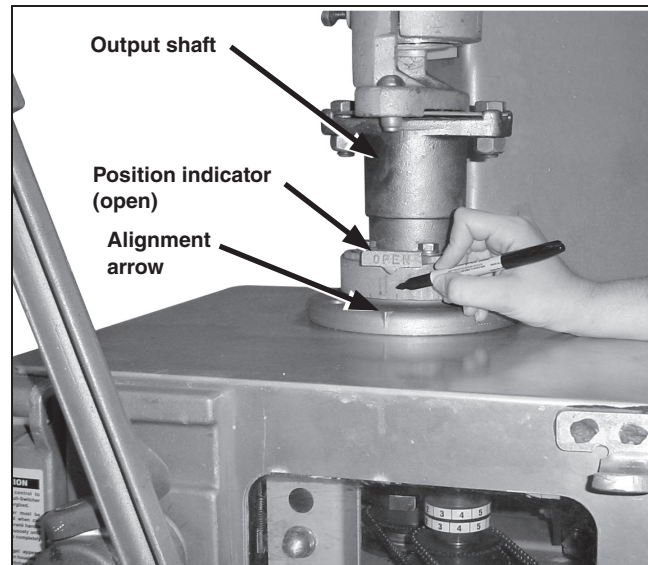

Figure 7. Adjust the position indicator. Mark the direction of operator rotation.
- STEP 4.** With the selector handle in the **Coupled** position, crank the high-voltage switch to the fully **Open** position and then to the fully **Closed** position. In each position, accurately align the high-voltage switch position indicators on the output-shaft collar of the switch operator with the alignment arrow below. See Figure 7 on page 14.
STEP 7. The travel-limit switch (coupled to the motor), which governs the extent of output-shaft rotation in the opening and closing directions, includes two contacts operated by cam-actuated rollers. See Figure 7 on page 14. The cams (upper one is the opening-stroke travel-limit cam; the one immediately below is the closing stroke travel-limit cam) are individually adjustable in 4.5-degree increments. Therefore, each cam can be adjusted to advance or limit engagement with its roller and thus open or close the corresponding switch contact, as required, during motor operation.